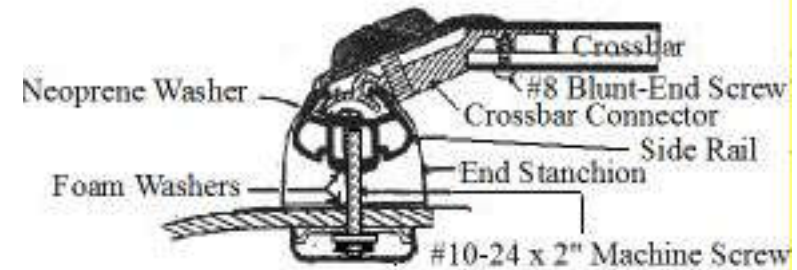

Fig. 1
1. Insert crossbar connectors into ends of crossbars and secure with #8 x 1/2" blunt-end self-tapping screws through holes in underneath side of crossbars (Fig. 1).
2. Apply self-adhesive foam rubber washers around holes on bottom of side rails (Figs. 1 & 2).
3. Compress and insert foam rubber blocks into the rectangular hollow area in ends of side rails (Figs. 1 & 2).
4. Apply self-adhesive foam rubber washers to bottom side of all mounting holes in molded end stanchions (Figs 1 & 2) and support posts (if included).
5. Place 3/16" neoprene washer on 2" machine screws, seating washers under screw heads (Figs. 1 & 2).